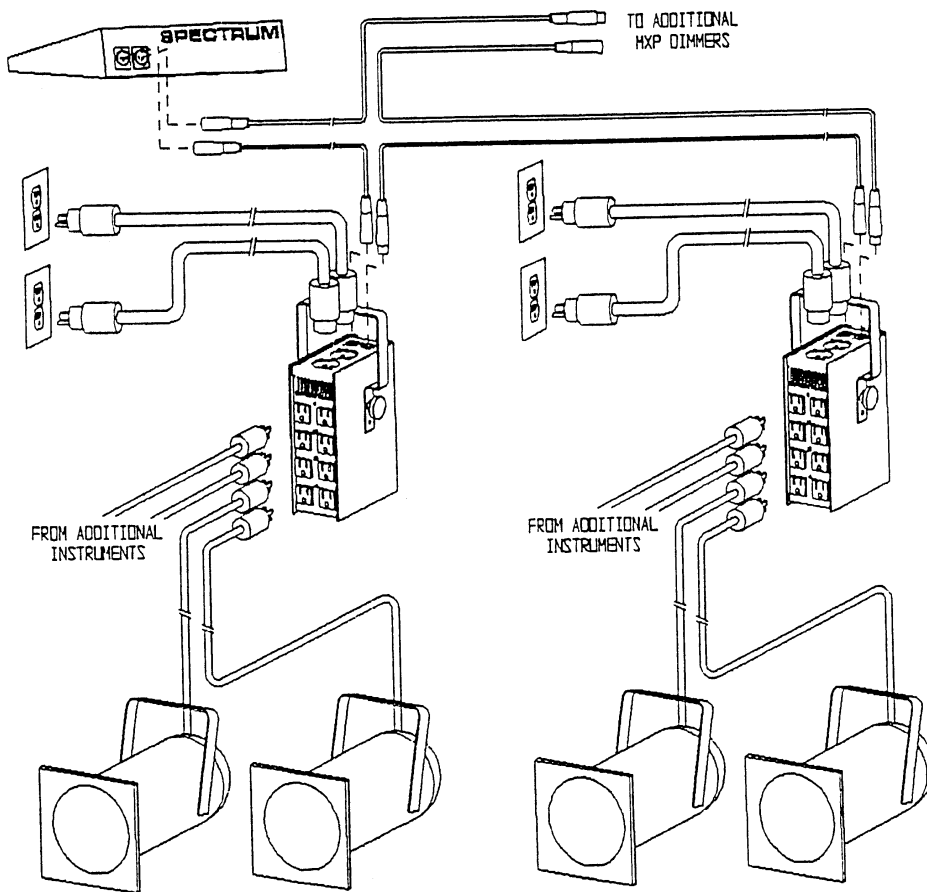

Figure 3
- 2) Plug the lighting instruments into the output receptacles on the dimmer. There are two output receptacles per channel. Be careful not to plug more than 1200 watts into any one channel. (see figure 3)